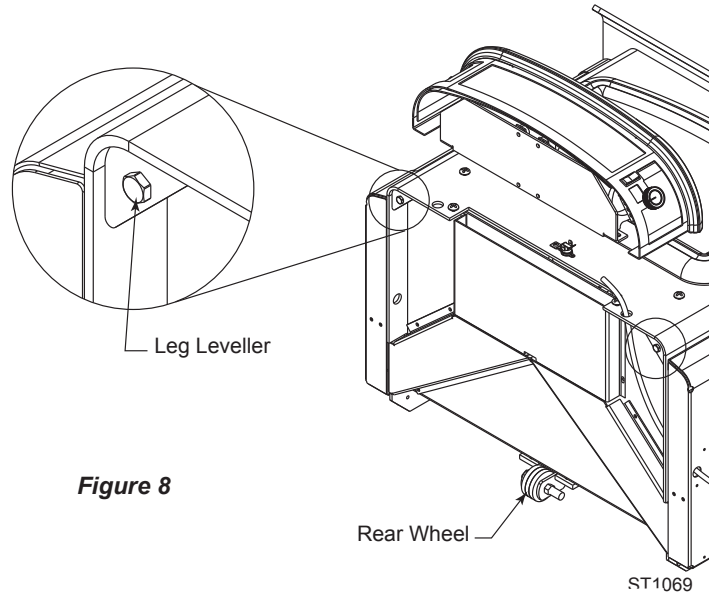

Figure 8
- If your hearth is not level there are three leveling points on the insert. One on each of the front corners which are easily accessed by sliding the corner of the insert just off the edge of the pallet. *Figure 8*